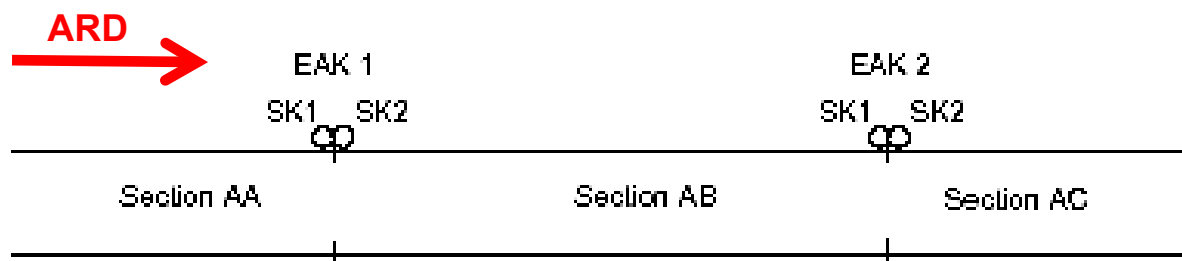

Figure 1 - Typical axle counter section (double rail contacts only)
1.3 Using the dummy wheel sweep three axles in the direction ARD (in this case of Figure 1 from section AA to section AB).